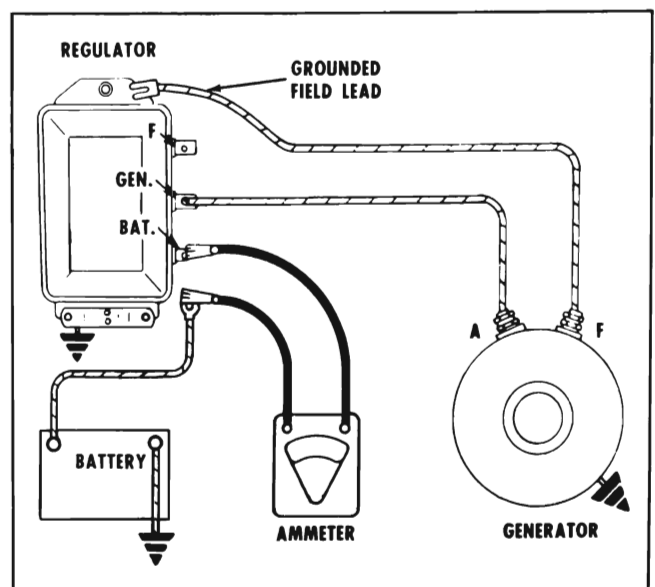

Figure 10-14—Testing Regulator for Oxidized Points
3. Disconnect field lead from regulator "F" terminal and ground it on regulator base. See Figure 10-14. If ammeter reading increases more than 2 amperes, oxidized contact points are indicated. Regulator should be removed